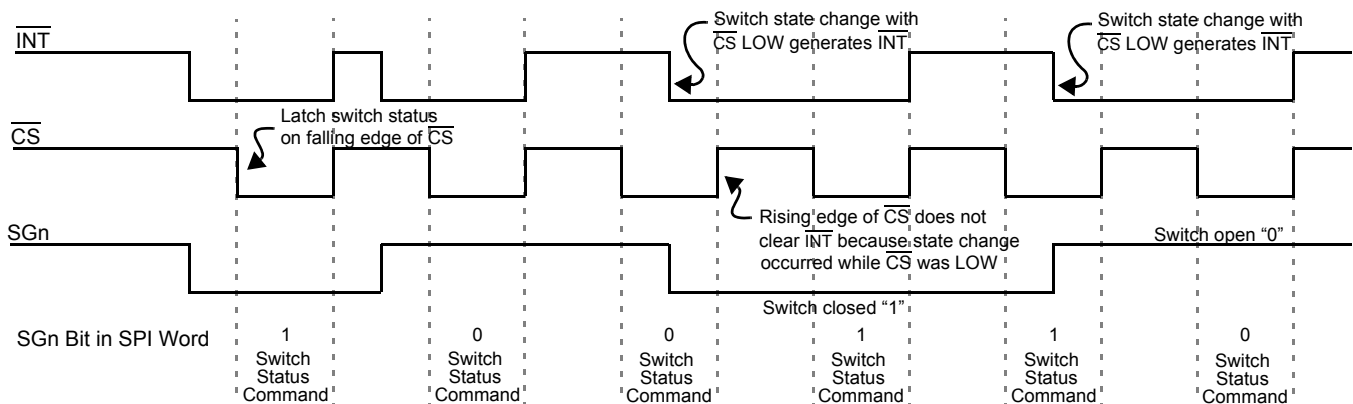

Figure 6. Normal Mode Interrupt Operation
2. $\overline{\text{INT}}$ pin is reset to logic [1], except when additional switch changes occur during $\overline{\text{CS}}$ LOW. (See Figure 6 on page 9.)
Figure 6, page 9, is a graphical description of the device operation in Normal mode. Switch states are latched into the input register on the falling edge of $\overline{\text{CS}}$. The $\overline{\text{INT}}$ to the MCU is cleared on the rising edge of $\overline{\text{CS}}$. However, $\overline{\text{INT}}$ will not clear on rising edge of $\overline{\text{CS}}$ if a switch has closed during SPI communication ($\overline{\text{CS}}$ LOW). This prevents switch states from being missed by the MCU.